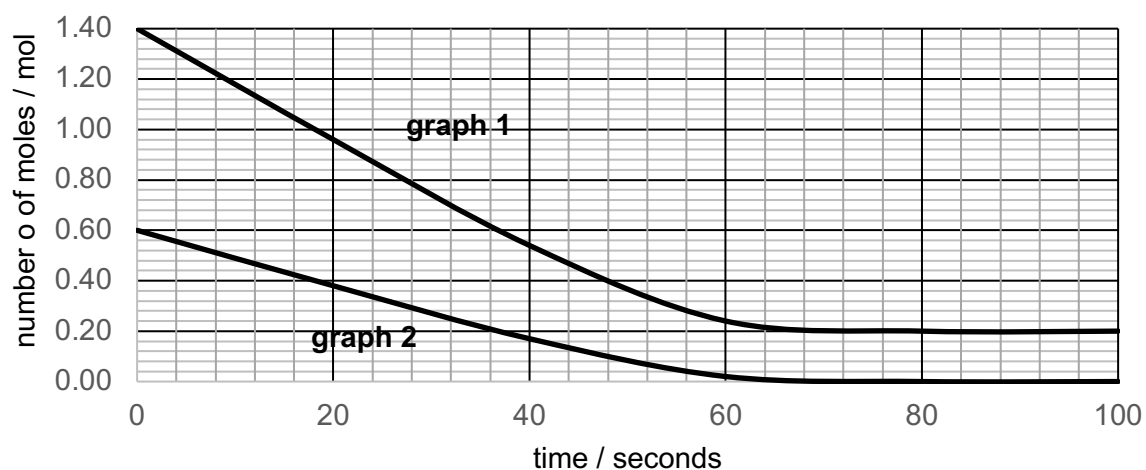

Fig. 4.1
- 4 A reaction was carried out between magnesium and hydrochloric acid. The number of moles of each reactant was monitored over time and the results obtained are shown in Fig. 4.1.
- (ii) Using the graph in Fig 4.1, determine the time taken for the reaction to complete.